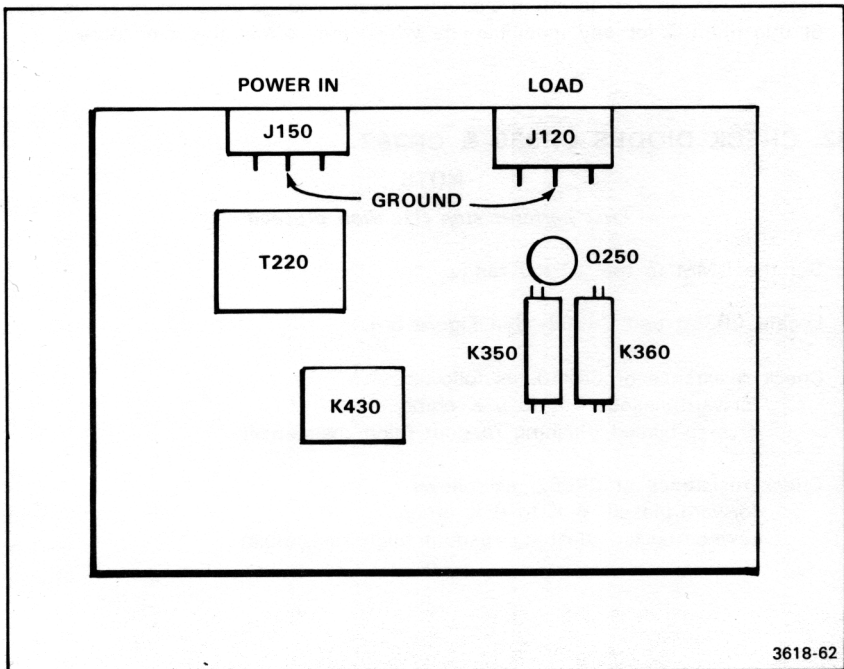

Figure 5-3. Location of grounds on POWER IN and LOAD connectors.
- b. Connect the DMM leads between the ground terminals of the POWER IN and LOAD connectors. See Figure 5-3.